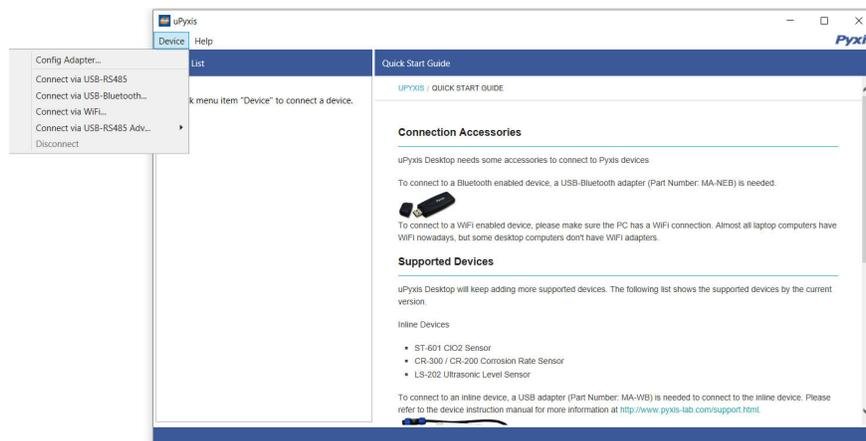

Figure 17.
4. On **uPyxis®** Desktop App, click Device → **Connect via USB-Bluetooth** (Figure 17).
5. If the connection is successful, the SP-210 and its Serial Number (SN) will be displayed in the left pane of the **uPyxis®** window.